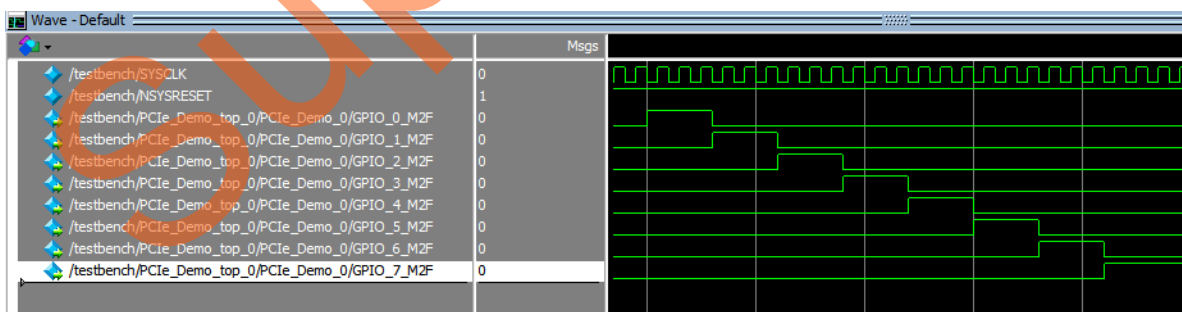

Figure 54 • Simulation Result with MSS GPIO Signals
8. Figure 54 shows the waveform window with MSS GPIO output signals.